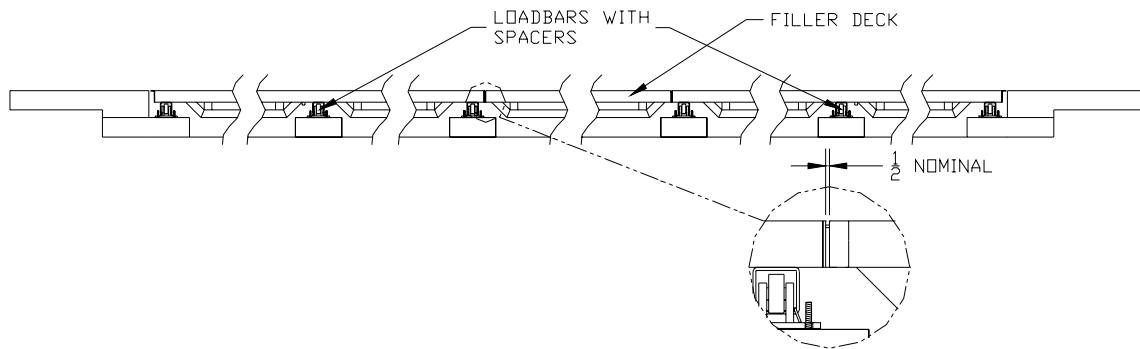

Figure 14 - 6 Loadbar Installation
1. Position the standard decks. Position the decks square to the foundation and with a gap between the decks and the foundation walls of approximately 1" (see Figure 14).